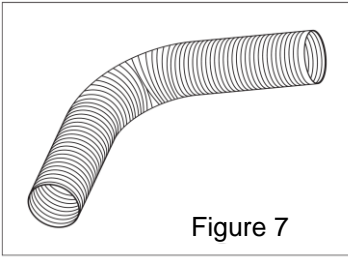

Figure 7
- To prevent loss of suction, avoid sharp angles or double inverted angles as much as possible (Figures 7 and 8).